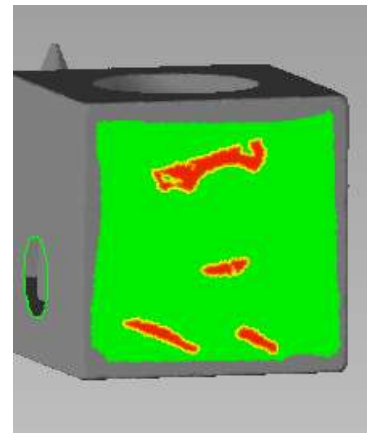

Figure 65
*☞ Note the areas of highest deviation (red) in the color map that is applied to the selected region in **Figure 65**. This information shows the areas of highest deviation based on the selected area to “best fit” the feature to. **Best Fit** is dependent on the selection you make, and all data selected will be used in the fitting process.*